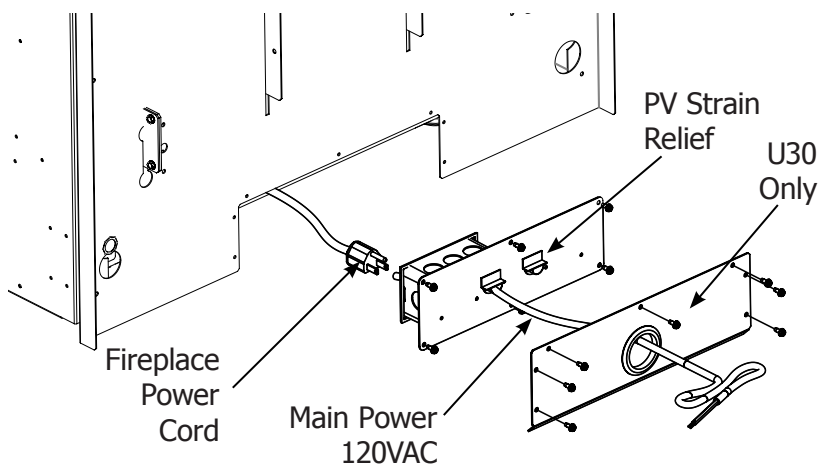

Figure 22: Power Vent Cable Strain Relief
2. Routing the 5-Wire Cable - Locate the unused electrical strain relief at the bottom of cabinet back and route the supplied 5-wire cable through it (Figure 22). Feed enough cable through to reach the IFC then tighten the strain relief.
Note - U30 models have an additional cover plate with a large grommet in the middle that will need to be removed to access the strain relief (Figure 22).